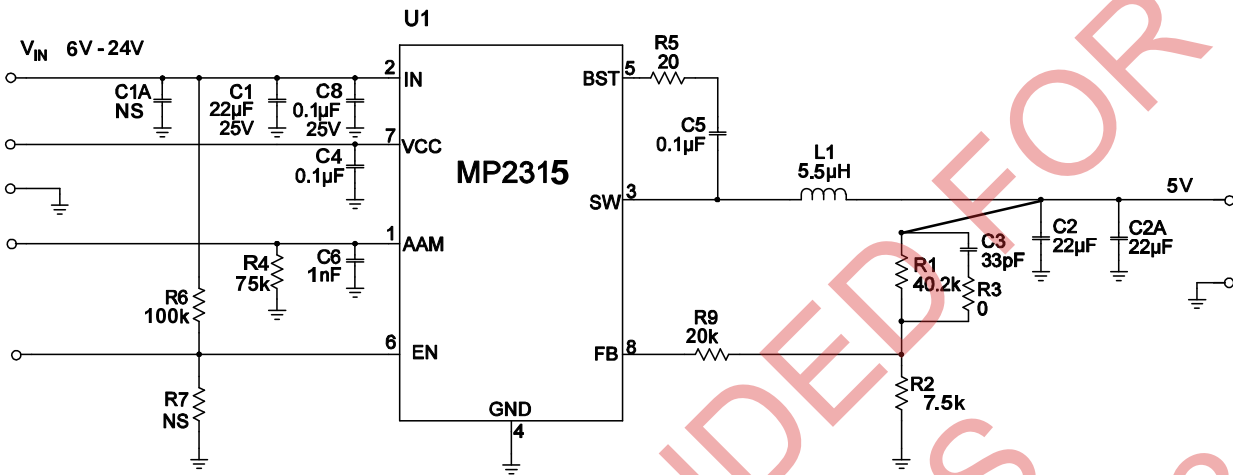

Figure 9:  $V_o=5V, I_o=3A$
- 6) The recommended layout is based on the Figure 9 Typical Application circuit on the next page.
The detailed application schematics are shown in Figures 9 through 14. The typical performance and circuit waveforms have been shown in the Typical Performance Characteristics section. For more device applications, please refer to the related Evaluation Board Datasheets.